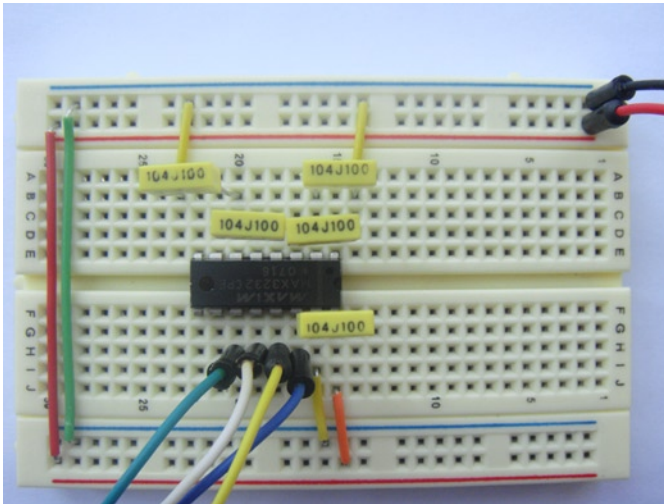

Figure 9-7. The MAX3232 circuit completed
- For the last two connections, connect your ground rail to P1-25 and your positive rail to P1-01. When you are all done it should look like Figure 9-7.